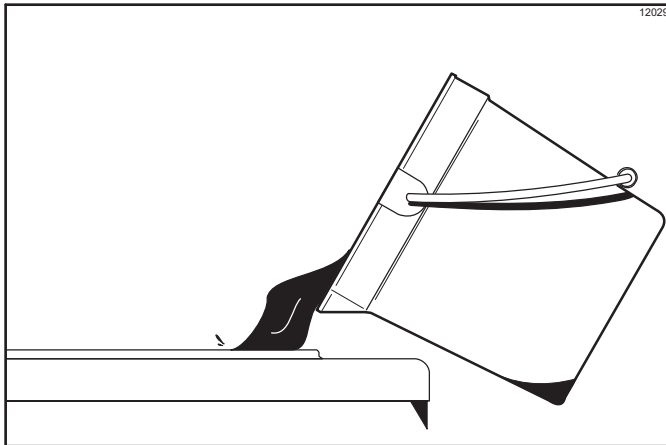

Figure 6-40
- Pour 2 gal. (7.6 L) of cool, clean water into the mix hopper. With the hopper brush, scrub the mix hopper, mix-level sensing probe, and the outside of the agitator drive shaft housing (factory-equipped agitator machines only). Using the double-ended brush, clean the mix inlet hole. (See Figure 6-40.)